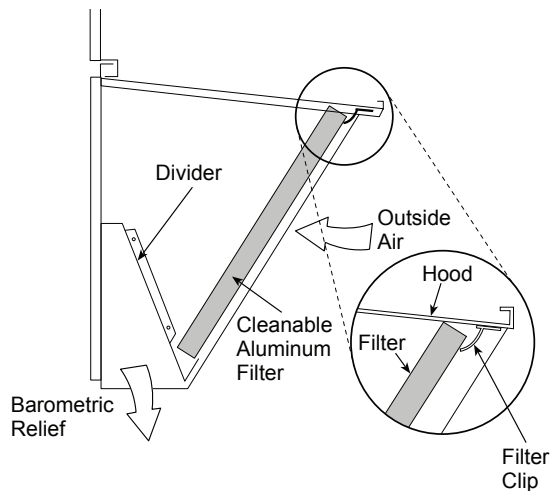

Fig. 13 — Economizer Filter Installation
5. Open the filter clips which are located underneath the hood top. Insert the aluminum filter into the bottom filter rack (hood divider). Push the filter into position past the open filter clips. Close the filter clips to lock the filter into place. See Fig. 13.